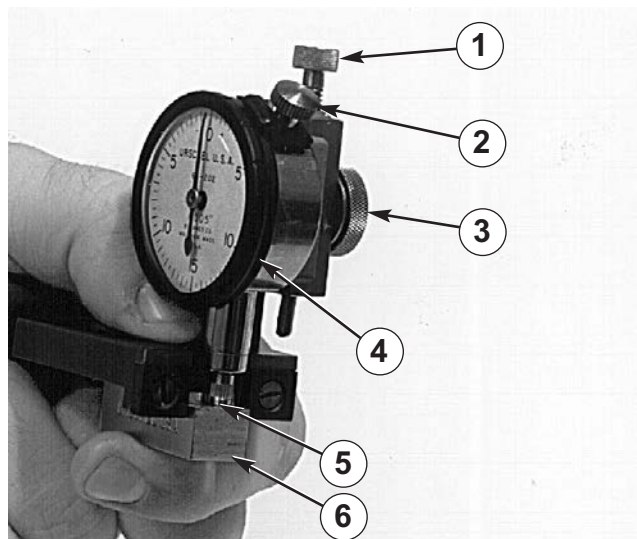

Figure 30 — Slice thickness setting gauge.
**NOTE:** Before adjusting shred thickness, set slice thickness setting gauge with the setting block (Figure 30).